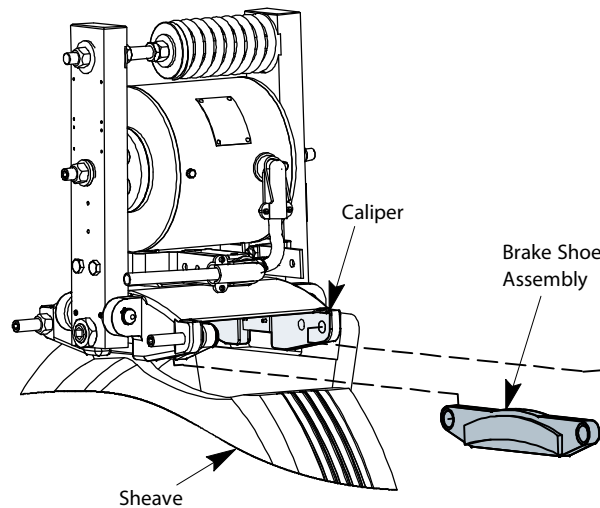

Figure 11 - Brake Shoe Installation
1. Slide the brake shoe assembly between the caliper and the sheave. See Figure 11.
- a. Loosen four (4) M16 x 60 mm brake mount mounting bolts.
- b. Use an M16 x 45mm bolt to jack the brake mount up through the jack bolt hole. See Figure 11.